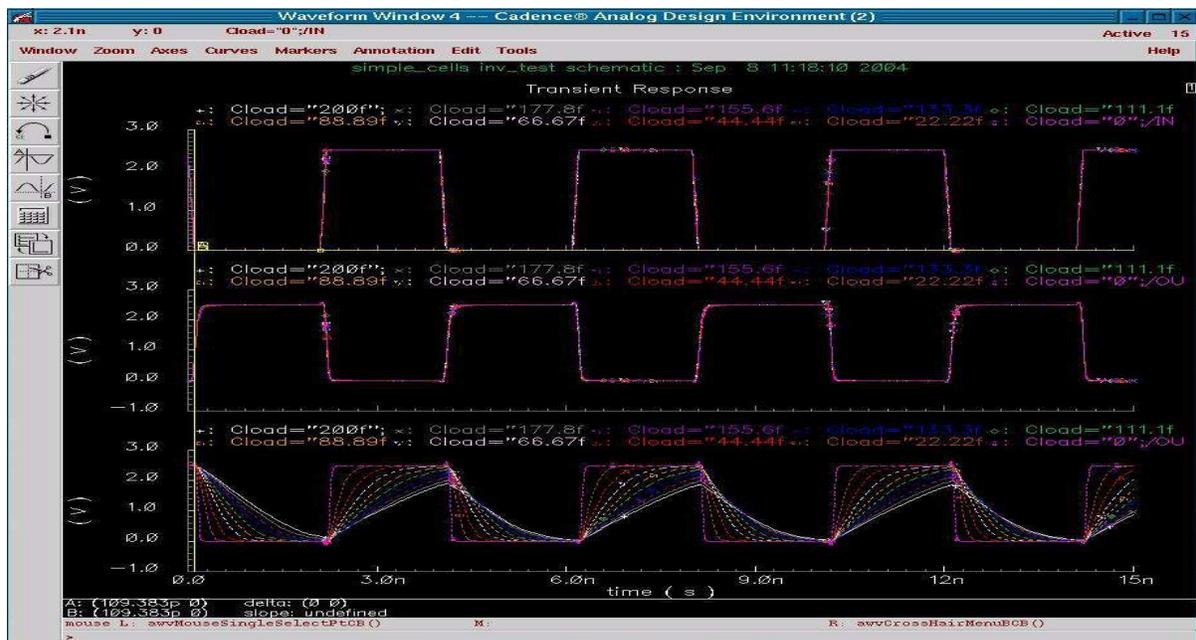

Figure 4: Parametric Analysis of the inverter testbench with output capacitance, Cload, varied from 0f to 200f.
25. As a last step in SPICE simulation for the inverter, we want to do what is called a parametric analysis. This involves varying one parameter in your circuit while keeping all others constant. In our case, we can vary the value of Cload and see how that affects our circuit. In the Analog Design Environment window, go to Tools->Parametric Analysis. Enter Cload in the variable name, 0f in the From field, 200f in the To field, and 10 in the Total Steps field. Enable the Select button and go to Analysis->Start. This now starts different runs of the simulation using different values of Cload for each run. After everything is finished, you should see 10 sets of waveforms in the waveform window similar to Figure 4.